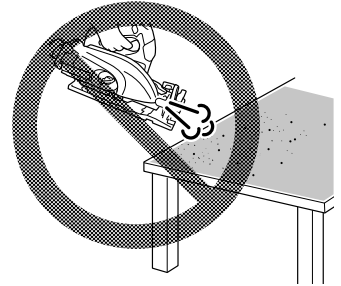

Fig. 5
7. Do not use the tool with only the blower function. (Fig. 5)